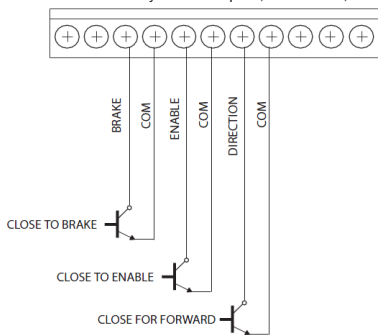

Figure 9. Open Collector Input
**Note:** In addition to dry contact inputs, the enable, brake and direction function also accept open collector inputs. Rated at 0.5 mA or greater. See Figure 9 below.